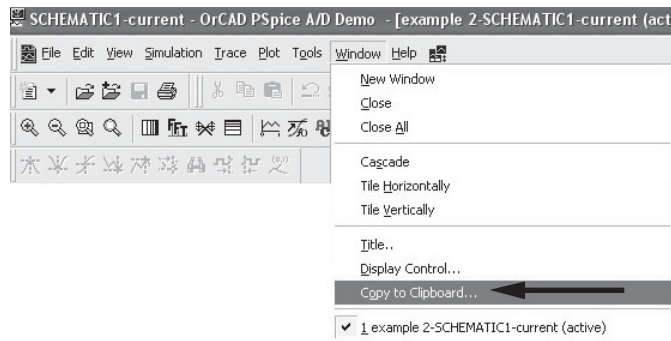

FIGURE 2.79 Copy to clipboard.
- a. In the schematic plot window, go to “Window” and choose “Copy to Clipboard” as shown in Figure 2.79.